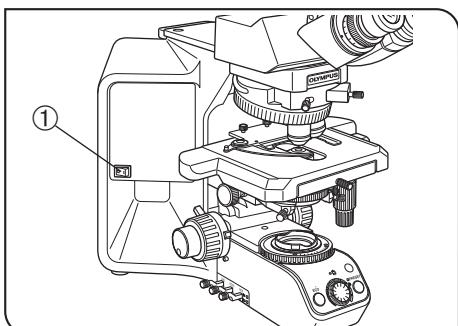

Fig. 1
(Fig. 1)
6. To avoid potential shock hazards and burns when replacing the light bulb, set the main switch ① to “O” (OFF) then disconnect the power cord from the wall outlet in advance. Whenever you replace the bulb during use or right after use, allow the lamp housing, and bulb to cool before touching. (Fig. 1)